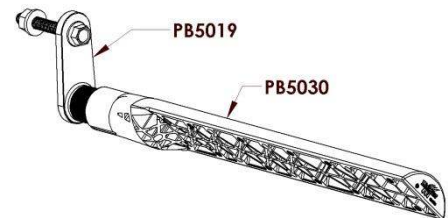

Figure 3
- B. Insert the PB5030 Paddle Bracket onto a PB5019 swivel bracket as shown in Figure 3.